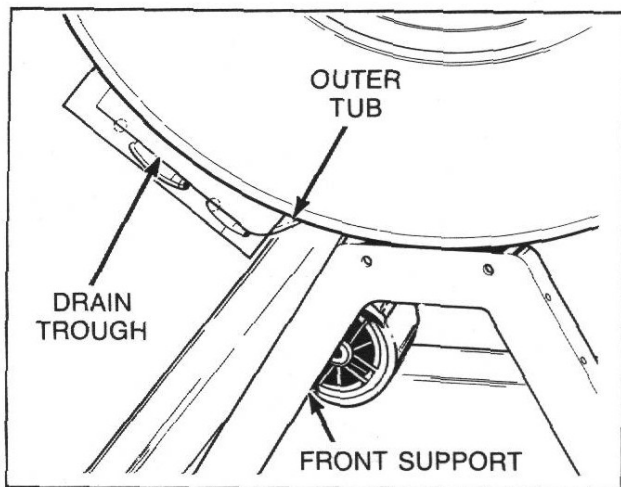

Figure 39
- m. Grasp outer tub at dispenser opening and loading door opening, rotate clockwise far enough for drain trough to clear front support, *Figure 39*, and pull outer tub off cylinder.